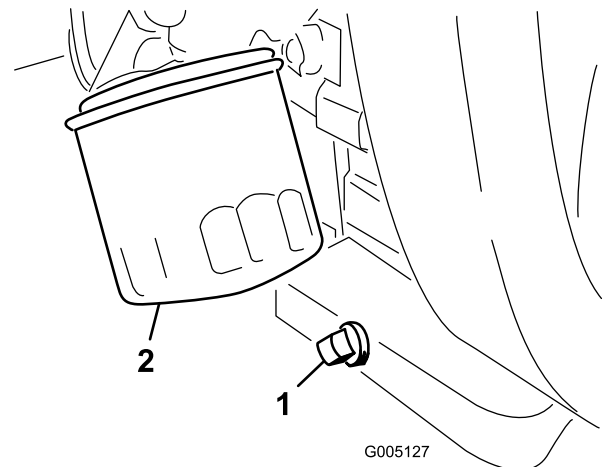

Figure 49
1. Remove the drain plug (Figure 49) and let oil flow into a drain pan. When the oil stops, install the drain plug.
2. Remove the oil filter (Figure 49). Apply a light coat of clean oil to the new filter gasket.